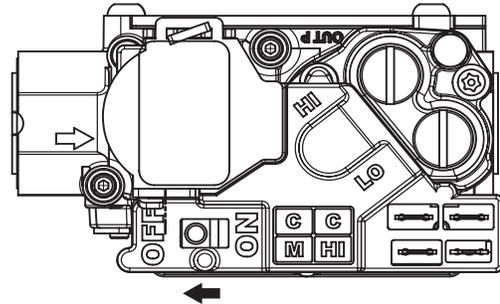

Fig. 20 - Control Switch to OFF
4. Turn the switch on the gas control to the OFF position. (See Fig. 20 or 21.)